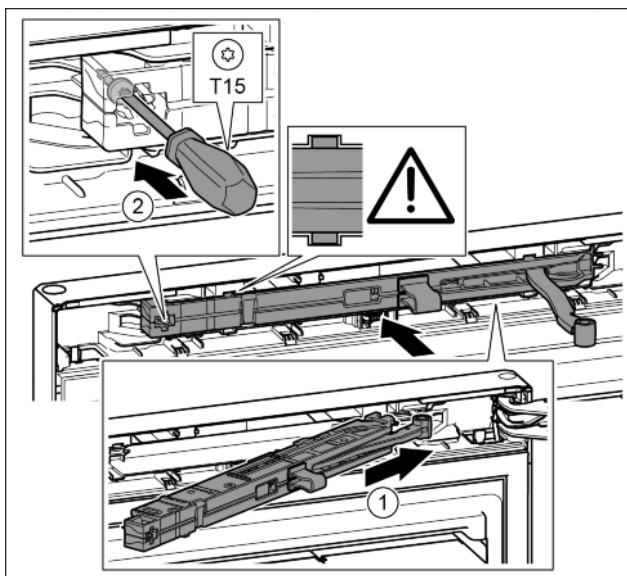

Fig. 41
- ▶ Slide the soft stop mechanism on the bearing bracket side at an angle into the slot as far as the limit stop. Fig. 41 (1)
- ▶ Tighten the screw with the T15 screwdriver. Fig. 41 (2)